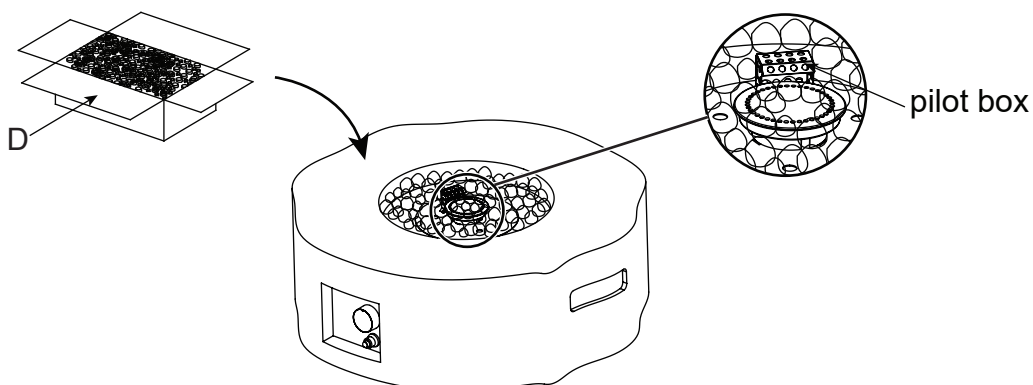

Figure 2
- Open the box of lava rocks, put the lava rocks (D) into the fire bowl of the fire table (A) (See Figure 2). A gas fire pit requires 4.18 lbs lava rocks.